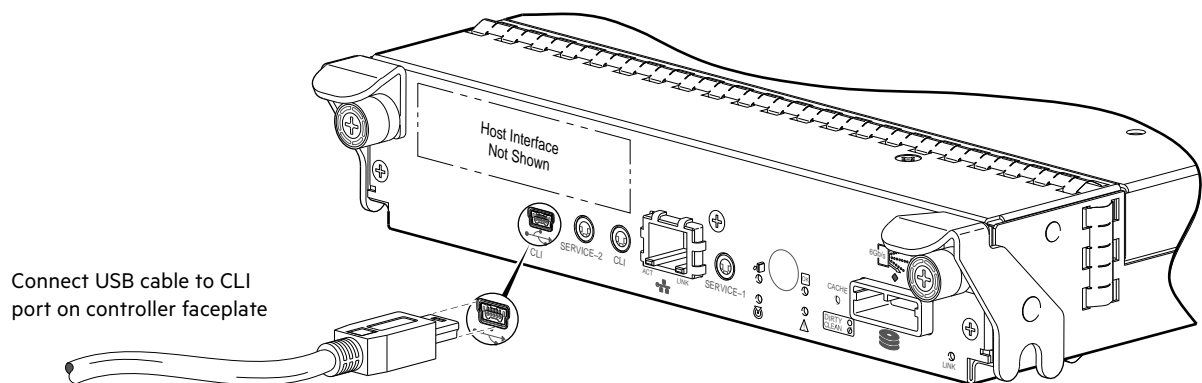

Figure 24 Connecting a USB cable to the CLI port
Once attached to the controller module as shown in Figure 24 \(page 40\), the management computer should detect a new USB device. Using the Emulated Serial Port interface, the controller presents a single serial port using a *vendor ID* and *product ID*. Effective presentation of the emulated serial port assumes the management controller previously had a terminal emulator installed (see Table 3). MSA 2050 controllers support the following applications to facilitate connection.
2. Use the provided USB cable to connect controller A to a USB port on a host computer. The USB mini 5 male connector plugs into the CLI port as shown in Figure 24 (generic controller module is shown).